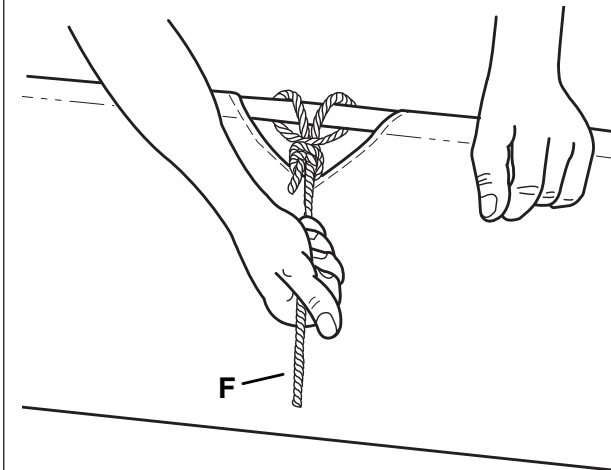

Figure 14
STEP 14: (SEE FIGURE 14)
- Tie the hopper rope (F) onto the upper rear hopper tube.